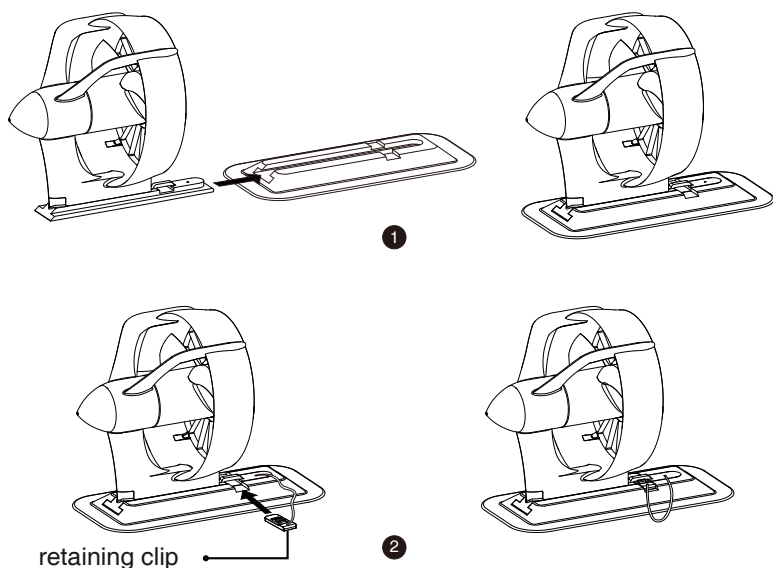

Figure 3-4
- ① Slide the standard adapter fully into the fin box.
- ② Insert the retaining clip to lock the adapter (Figure 3-4).